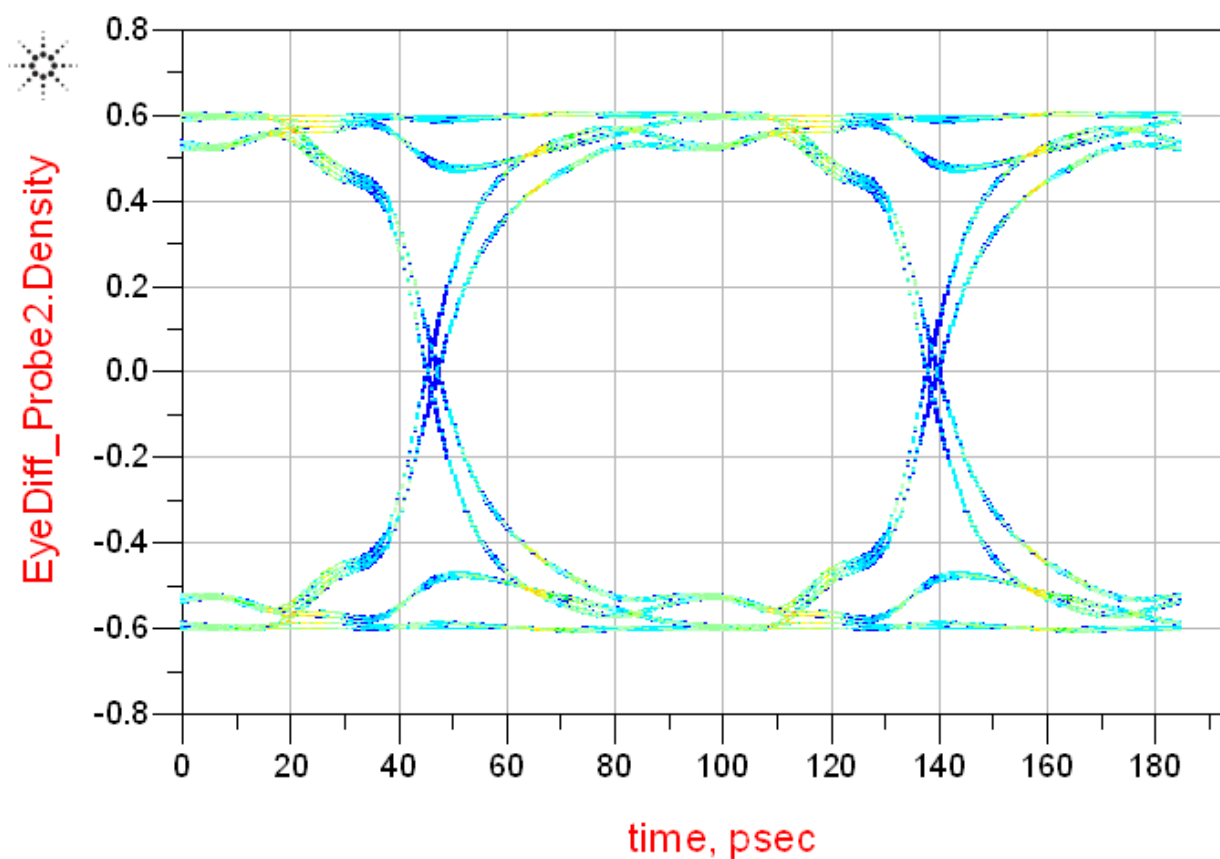

Figure 2. Eye Diagram of ADS (corner=2, Vreg=2, and emaphesis = 0)
4. In the popup after simulation, insert rectangular plot from palette panel and link density measurement to view the eye diagram. Refer Figure 2.